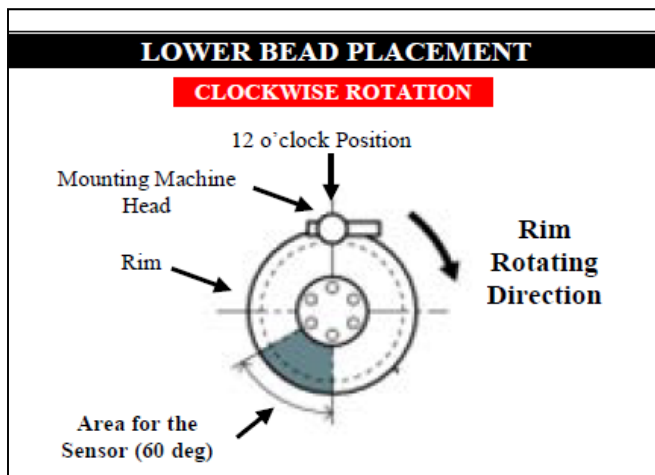

Figure 6a
- Position the wheel on the mounting machine with the sensor at ~ 7 o'clock position. See Figure 6a (Shaded Area). Mount/dismount head is considered as 12 o'clock Position.